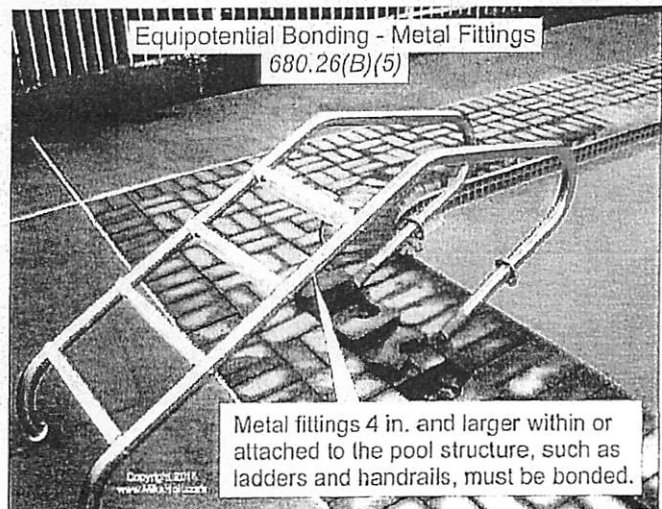

Figure 680-44
(5) **Metal Fittings.** Metal fittings 4 in. and larger located within or attached to the pool structure, such as ladders and handrails must be bonded to the equipotential grid. Figure 680-44